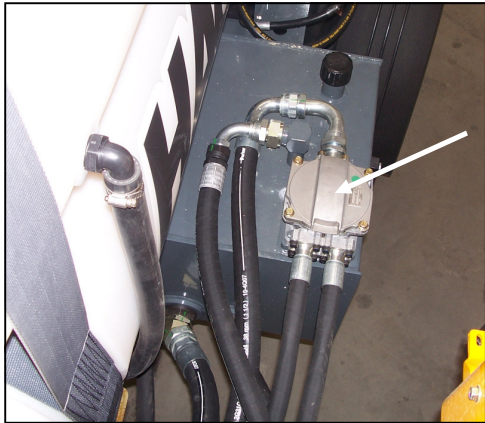

FIG 119-2
**RETURN FILTER**- Remove and install a new 10 micron rated return filter (fig. 119-2) at the end of the first 50 hours of use, subsequently replace the filter every 250 hours, or once a year, whichever comes first.